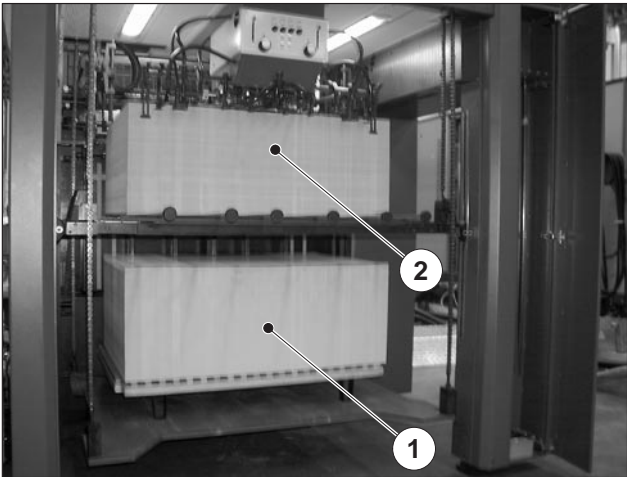

Fig. 6
10. Move the pile (Fig. 6/1) upwards until it is approximately 10 cm below the auxiliary pile (Fig. 6/2).